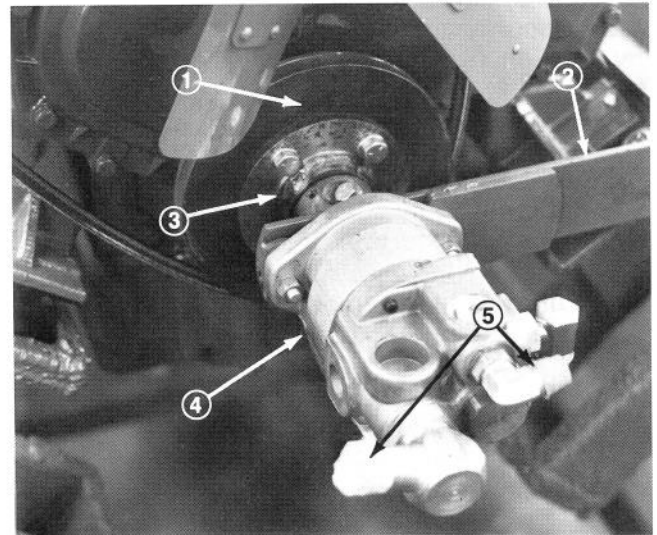

Figure 101
The hydraulic pump is coupled directly to the front crankshaft pulley (Fig. 101), and is equipped with a flow divider valve to operate both the frame hydraulic system and the tractor power steering system. The total pump capacity is 10.5 GPM (0.624 L/s) at 1200 RPM (pump speed) and 1500 PSI (10 343 kPa). The primary flow rate (power steering) is 2.0 GPM, 1250 PSI (8 618 kPa) relief valve setting.
2. Remove the capscrew and locknut from the end of the torque arm and the three hub mounting capscrews from the crankshaft pulley (Fig. 101) and remove the pump.